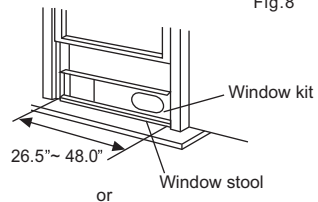

Fig. 9
2. Attach the window slider kit to the window stool. Adjust the length of the window slider kit according to the width of window, shorten the adjustable window kit if the width of window is less than 26.5 inches. Open the window sash and place the window slider kit on the window stool. See Fig.9.